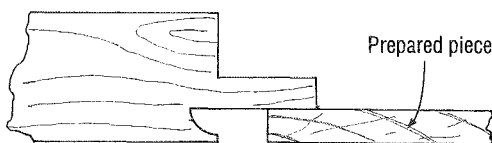
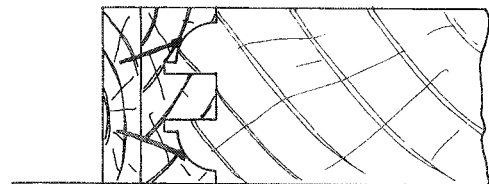

Fig. 4.68 Preparing backing.
Fig. 4.71 Backing piece for double scribing.
3. Prepare a piece of timber to the same thickness as the mould and approximately 300 × 200mm in length and width (Fig. 4.68).
The section to be tenoned must fit snugly into the backing in order to eliminate break-out totally. In some cases it is necessary to thickness the timber not to the size of the mould, as in Fig. 4.68, but slightly thicker than the section to be tenoned. This way the whole piece is supported by one moulded section, rather than having to piece together a backing piece (Fig. 4.71).